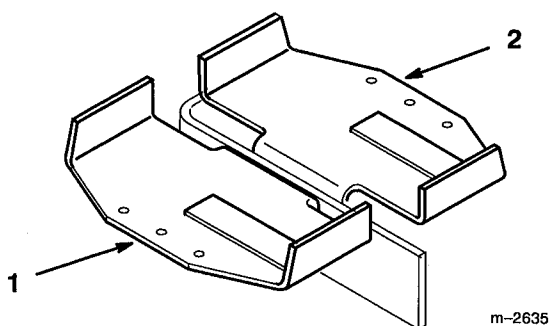

Figure 8
1. Mount battery holders to back side of left rear corner of cutting unit carrier frame with (2) 3/8-16 x 1-3/4" bolts and 3/8" locknuts (Fig. 8).